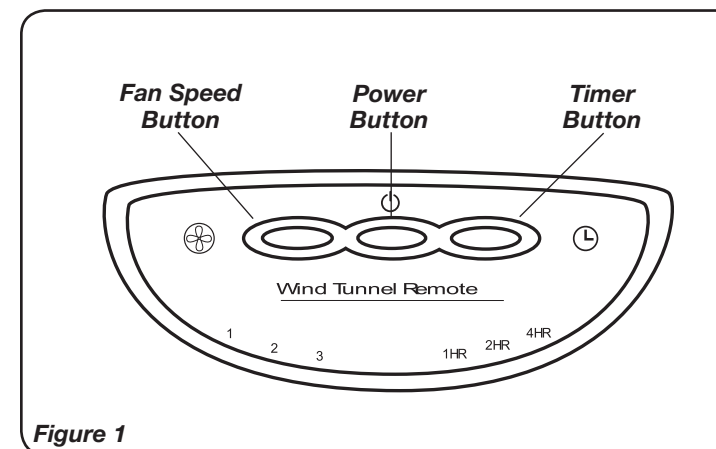
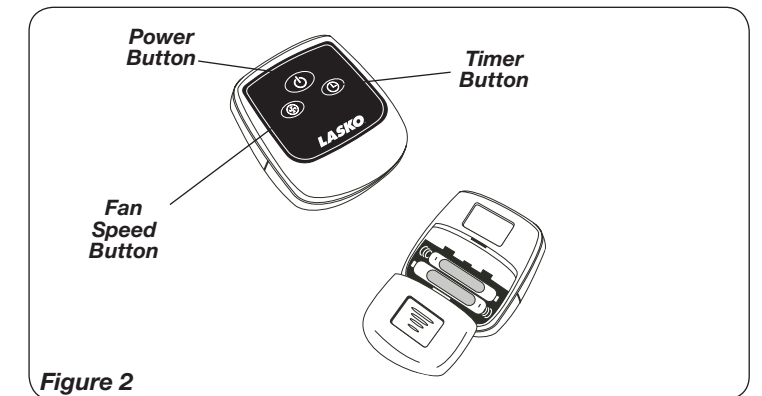

Figure 1
Figure 2
This Fan may be operated by the manual controls located on top of the unit (as shown in *Figure 1*) or by the Remote Control (shown in *Figure 2*).
7. **FAN SPEED:** You may now adjust the fan speed to the desired level, 3 (High), 2 (Medium), or 1 (Low) by pressing the **Fan Speed Button** (⊕) on the Fan. (*Figure 1*)
REMOTE CONTROL (Figure 2)
1. Install batteries (not supplied) as shown in *Figure 2*. The battery is type "AAA".